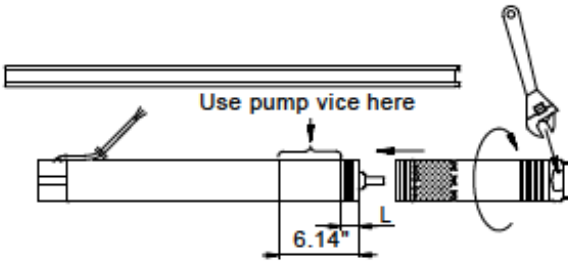

Figure 3-7: Pump in Vice
1. Place the motor horizontally in a vice and tighten it, see fig. 3-7.
4. A spanner may be used on the clamping faces of the pump end, see fig. 3-7.